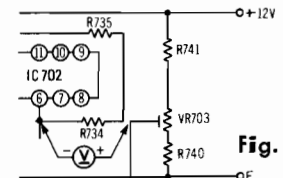

Fig. 15
<p>G Capstan motor circuit adjustment</p> <p>Condition:</p> <ul style="list-style-type: none"> • Playback mode <p>Equipment:</p> <ul style="list-style-type: none"> • DC voltmeter • Oscilloscope 	<p>A. Standard DC power supply voltage adjustment</p> <ol style="list-style-type: none"> 1. Measure the DC voltage between central point of VR703 and ⑥ terminal of IC702 as shown in fig. 15. <div style="border: 1px solid black; padding: 5px; width: fit-content; margin: 10px auto;"> <p>Standard voltage: 0 ± 0.05 V</p> </div> <ol style="list-style-type: none"> 2. If measured voltage is not within standard, adjust VR703. <p>B. Phase lock point adjustment</p> <ol style="list-style-type: none"> 1. Measure the DC voltage between ④ terminal of IC702 and ground as shown below. <div style="border: 1px solid black; padding: 5px; width: fit-content; margin: 10px auto;"> <p>Standard voltage: 5.2 ± 0.1 V</p> </div> <ol style="list-style-type: none"> 2. If measured voltage is not within standard, adjust VR702. <p>C. Position detecting signal output level adjustment</p> <ol style="list-style-type: none"> 1. Connect oscilloscope to test point (T.P [P.V]). 2. Measure the peak-to-peak voltage of position detection signal of test point with the oscilloscope. 3. If the measured signal voltage is markedly different from the voltage shown below, make the necessary adjustment with VR701.